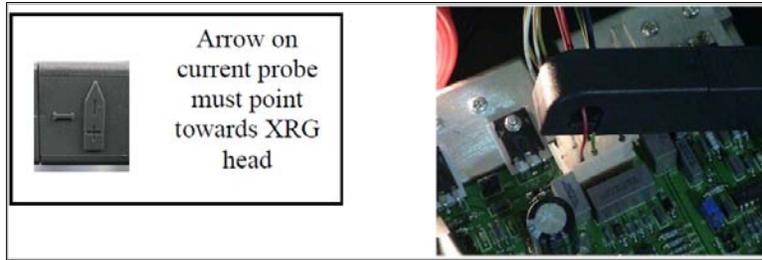

Figure 121: Current Probe Used to Observe mA Drive Signal
- b. Connect the current probe to Channel 2 of the oscilloscope. Set the current probe to 100mV/A. Clamp the probe around the red wires connected to Pin 3 of PL3. Ensure that the current arrow on the probe points toward the generator head. See Figure 121.